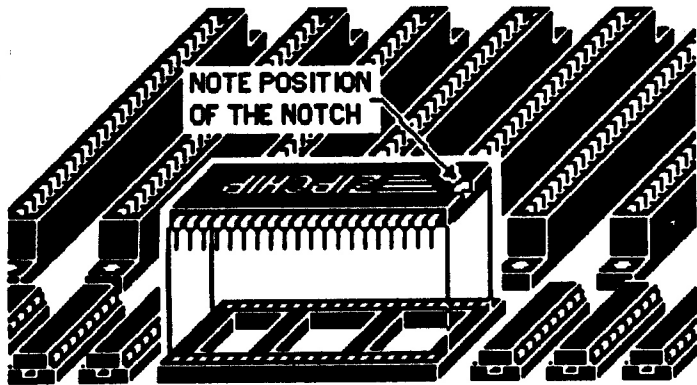

Figure 3: Installing ZIP CHIP in an Apple II Plus
9. Take the ZIP CHIP and place it over the empty socket. Be sure the notched end matches *Figure 3* (Page 4).